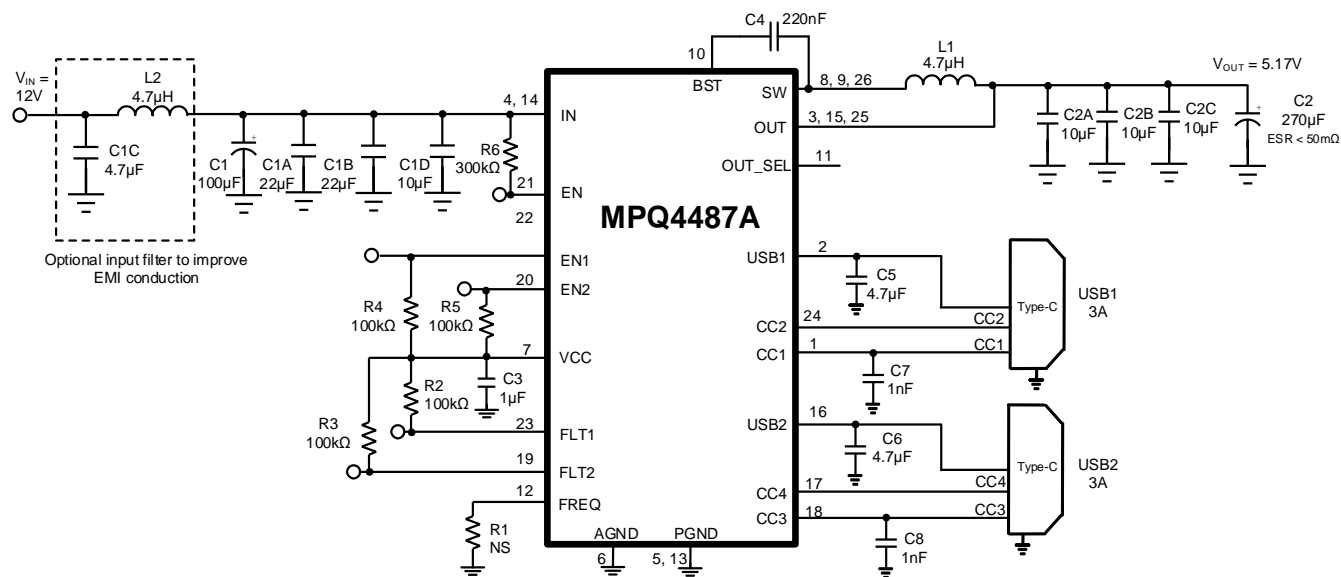

Figure 12: Dual USB Type-C 5V/3A DFP Ports (14)
- 13) The recommended layout is based on the Typical Application Circuits (see Figure 12, Figure 13, and Figure 14 on page 25 and page 26).